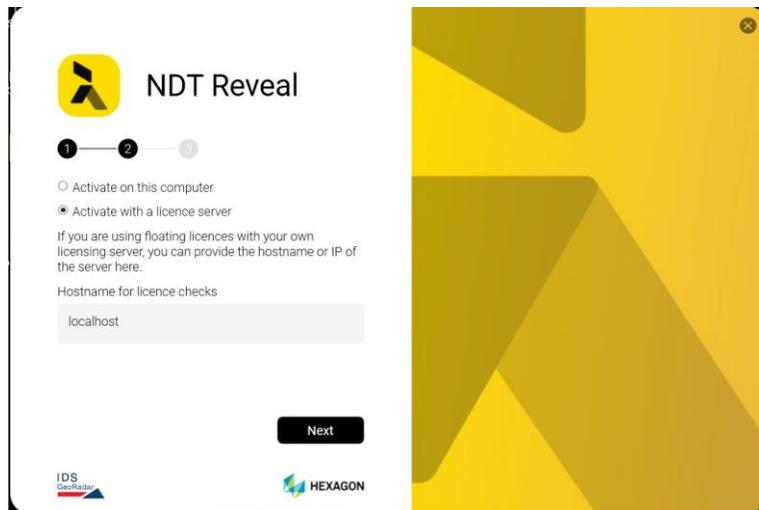

Fig. 11 Select the location for EID
11. Select the location where the EID License is installed (enter "localhost", if the EID is installed in the same PC, enter the IP address of the Server, if the license is installed on a Server) (Fig. 11),